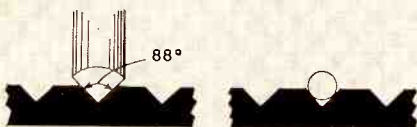

Fig. 1—How cutting and playback styli differ.
The circuit (Fig. 1) was evolved from several sources, but seems to be basic. This is partly because transistors—like vacuum tubes—can be connected in only a few basic ways, and everybody has to remember about thermal runaway, beta and h-parameters. So the basic preamp, comprising the first two transistors, does what all preamps do: increases the signal level from the pickup and provides frequency compensation. The feedback frequency from collector to emitter does not follow exactly the recommended values for RIAA compensation, but this, again, is a matter of ears. If you want the real thing, the "true" values shown in Fig. 2 are for you. In our case, despite what the meter said when we ran a frequency
shown in Fig. 1 please our ears! We measured the bass boost (about 20 db) with the treble control at "flat" and we like it that way *when we listen*, refusing
**Tracing distortion** occurs because recordings are cut with a chisel-shaped stylus and played back with one that is spherical (Fig. 1). This spherical stylus cannot trace precisely the minute undulations cut by the chisel. Two conditions aggravate this misfit: recording at high level, and the slow groove speed at the inside diameters. It is possible for any normal cutter to cut angles, especially at high frequencies, which are actually less than the dimensions of the playback stylus.